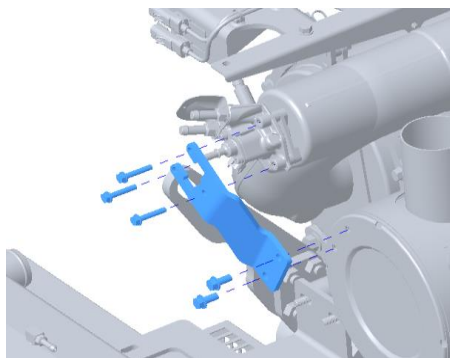

Figure 18
17. Uninstall the harness bracket on the ATD unit. Install a new bracket (6) using M6X35 (18) bolts and reuse the M8X18 bolts that were removed as shown in the figure 18.